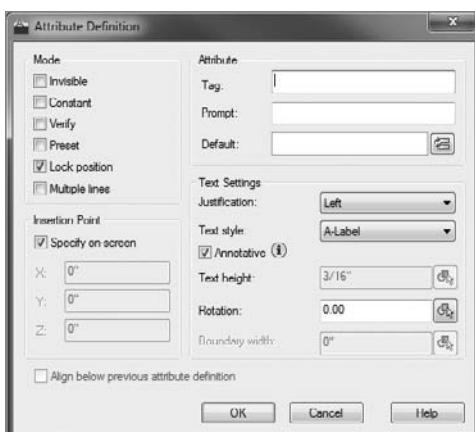

FIGURE 9.3 The Attribute Definition dialog box
8. Start the ATTDEF command by clicking the Define Attributes button on the Insert tab > Attributes panel. The Attribute Definition dialog box opens (see Figure 9.3).